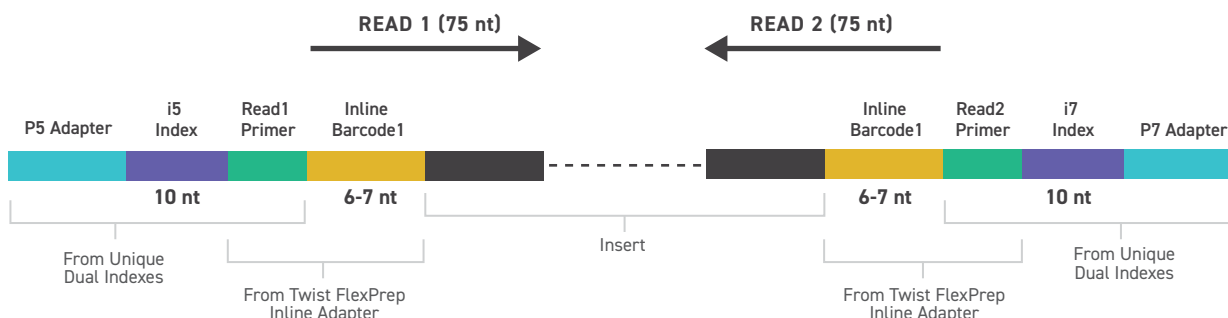

Figure 3. Twist FlexPrep Final Library Structure for Post-Ligation Pooling.
Each additional Twist FlexPrep barcode is inline as part of read 1 (R1) and read 2 (R2). Existing Illumina BCL conversion and sample demultiplexing software (e.g., bcl2fastq2 and BCLconvert) are not currently equipped to handle the dual-step demultiplexing required for samples with barcodes at the start of template reads. Consequently, Illumina software treats Twist FlexPrep libraries as conventional dual-index libraries. The software requires an additional step to segregate the library sequences into their respective 12 individual FASTQ files while maintaining the shared i5 and i7 (Figure 3).
- The read structure parameter defines the Twist FlexPrep specific read structure, as follows (see Figure 3):